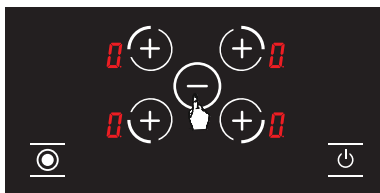

Figure 17
3. You can also use the buttons **+** to adjust the volume on all hotplates **0**. (See fig. 17.) When the power on all the hotplates is **0**, the hob switches itself off after 20 seconds.